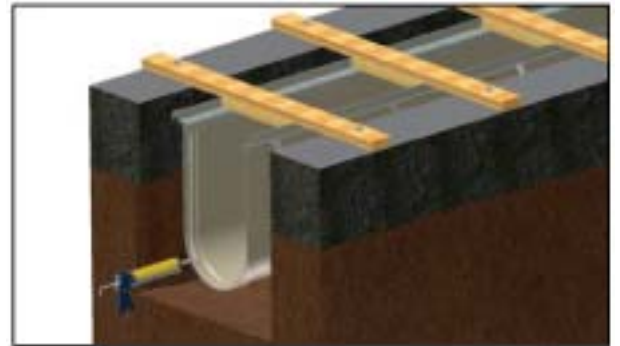

Figure 7.2
- If joints are to be sealed, apply a small bead of SeamerMate™ sealant to the joint coupler. See Fig. 7.2